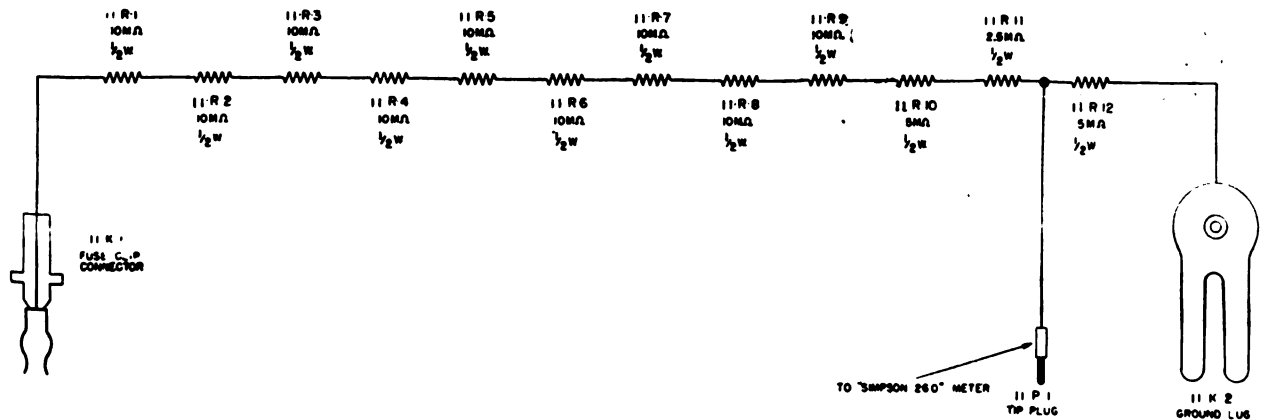

Figure 168. Multiplier IE-41, schematic diagram.
- q. Figure 168, Multiplier IE-41, schematic dia-
- (1) Make certain that all power and high-voltage switches are off.
- (2) Open the door on Power Supply Unit RA-101-A. Remove air filter on side of cabinet.
- (3) Slide metal base of the 0 to 7 kv multiplier (fig. 168) under the thumbscrew located at the front of chassis on the left side. Tighten securely.